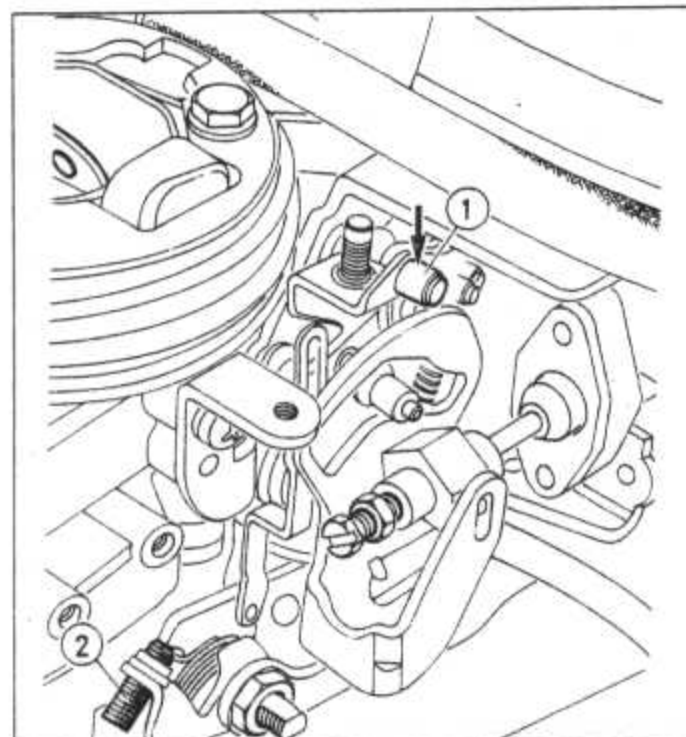

Fig. 13.24 PTO adjustment on the Weber 36 TLC carburettor (Sec 7)
19 To adjust the positive throttle opening (PTO), press the roller to open the choke flap, and check that the engine speed is 2000 rpm (make sure that the electric fan is not running). If necessary, adjust screw (2) (Fig. 13.24).